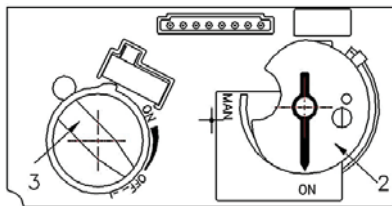
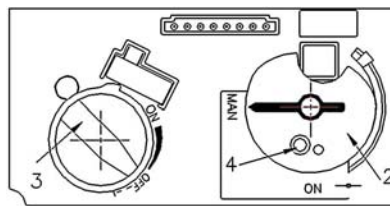
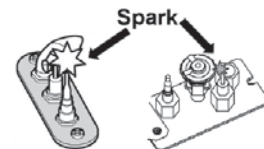

Fig 1
Fig 2
Fig 3
2. SET ON/OFF SWITCH (1) TO "OFF" POSITION.
- Wait five (5) minutes to clear out any gas, then smell for gas, including near the floor. If you smell gas, STOP! Follow "B" in the safety information above on this label. If you don't smell gas, go to the next step.
3. **AUTOMATIC IGNITION** (fig. 1): Locate the pilot (fig. 3.) inside of firebox at Left Hand side.
- ON/OFF switch (1) in ON position, MAN-knob (2) in ON position; set Flame Adjustment knob (3) to lowest setting (U);
- When the pilot is lit, the Flame Adjustment knob (3) will automatically rotate to the highest setting.
4. **MANUAL IGNITION** (fig. 2): With the window off, locate the pilot (fig. 3) inside of firebox at Left Hand side;
- ON/OFF switch (1) in ON position, MAN-knob (2) in MAN position;
- Set Flame Adjustment knob (3) to the lowest setting (U);
- Push down the metallic core (4) with a pen or similar instrument; this will establish the pilot gas flow;
- Light gas at the pilot (5) with a match;
- Continue holding down metal core (4) for about 10 seconds; after release, pilot should remain lit;
- If the pilot will not stay lit after several tries, turn the gas control knob (3) to "OFF" (U) and call your local service technician or gas supplier.
- Reinstall the window and set the MAN-knob (2) to "ON"; turn Flame Adjustment knob (3) up (U) or down manually or use the up/down 'flame' buttons on the remote control handset to adjust the flame height.